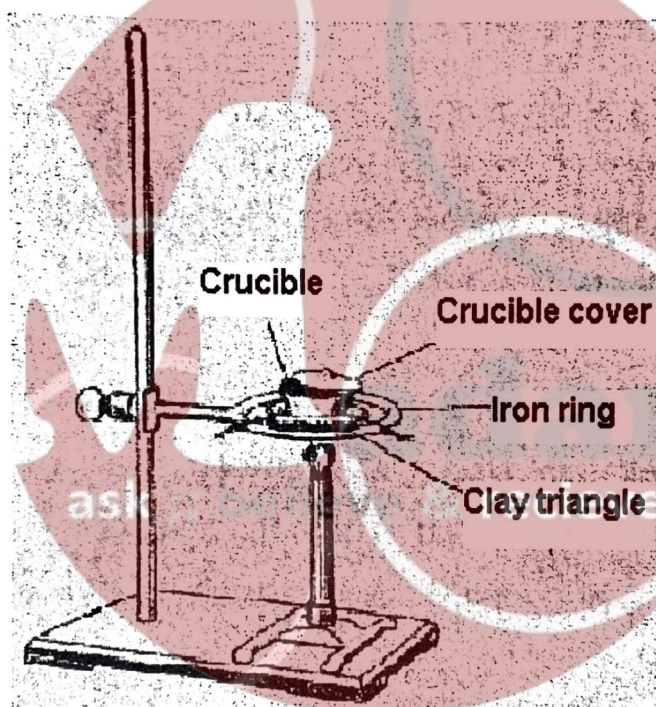

Figure 3.1. The correct arrangement of the the ring, clay triangle, crucible and its cover, and the burner.
5. Place the covered crucible in a clay triangle on an iron ring that is attached to a ring stand. Adjust the height of the ring so that the bottom of the crucible will be in the hottest part of a properly adjusted laboratory burner. The correct arrangement of the equipment, crucible, and burner is shown in Figure 3.1.